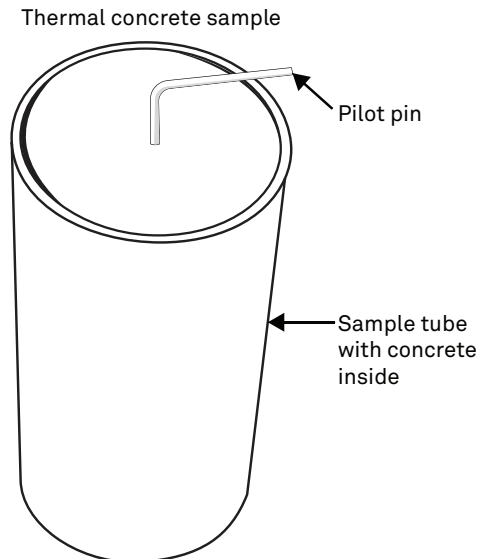

Figure 16 Pilot pin used to form TR-3 access hole
4. Ensure the pilot pin is deep enough that the needle can be entirely inserted once the concrete has cured (Figure 16).